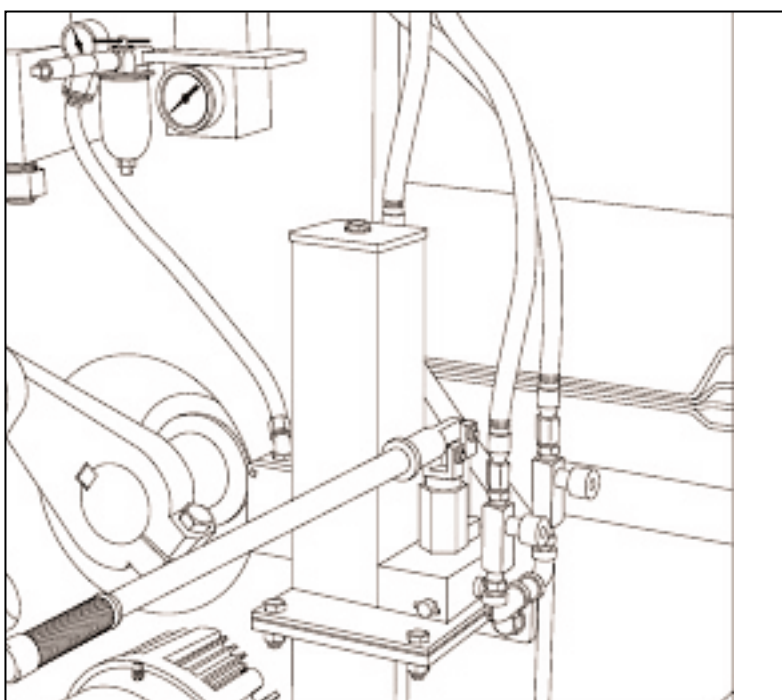

Figure 4.56 HYDRAULIC JACK SYSTEM.
- c. Raise mold throat frame up by using hydraulic jacks system (figure 4.56) just high enough to allow all lower spacers to be removed or added at all four corners.